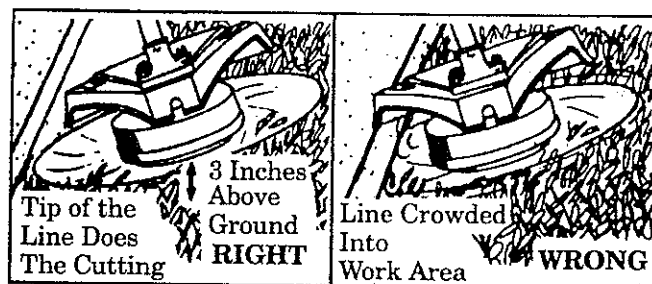

Figure 14
- **The tip of the line does the cutting.** You will achieve the best performance and minimum line wear by not crowding line into cutting area. The right and wrong ways are shown in Figure 14.